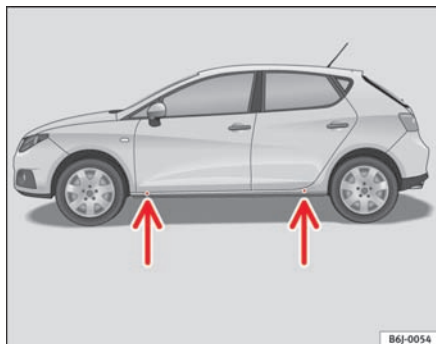

Fig. 123 The jacking points
- Locate the jacking point under the door sill closest to the wheel to be changed ⇒ fig. 123.
Recesses at the front and rear of the door sills mark the jacking points ⇒ fig. 123. A position has been made for each wheel. Do not fit the jack anywhere else.